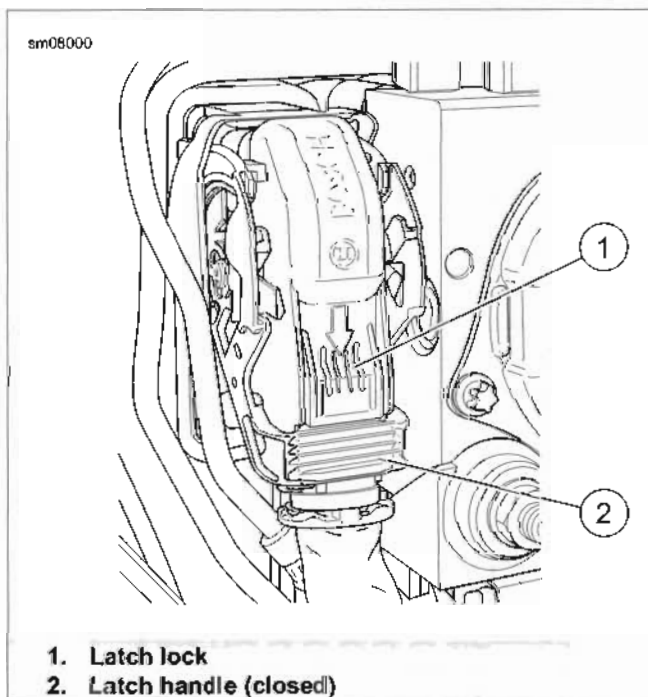

Figure A-6. Bosch BTC Sealed Connector (Latched)
1. See Figure A-6. To unplug connector:
- a. While pressing latch lock (1), lift latch handle (2).